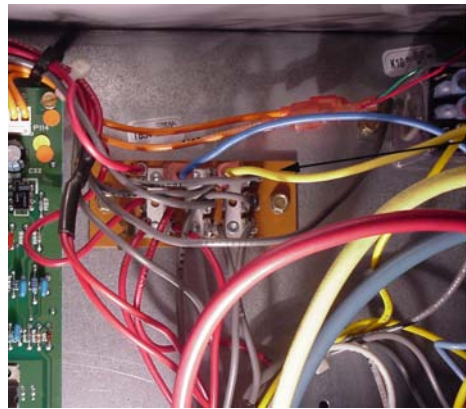
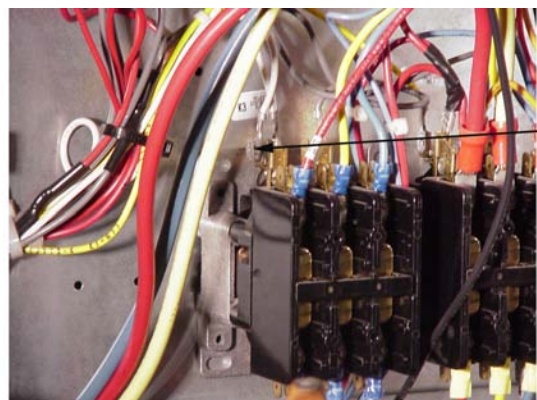

Figure 18
Figure 19
2. Disconnect red wire marked J3-3 from TB34 terminal 1. **See Figure 18.** Add extension wire (provided) to J3-3 wire. Connect J3-3 to K3 blower relay coil terminal A. **See Figure 19.**